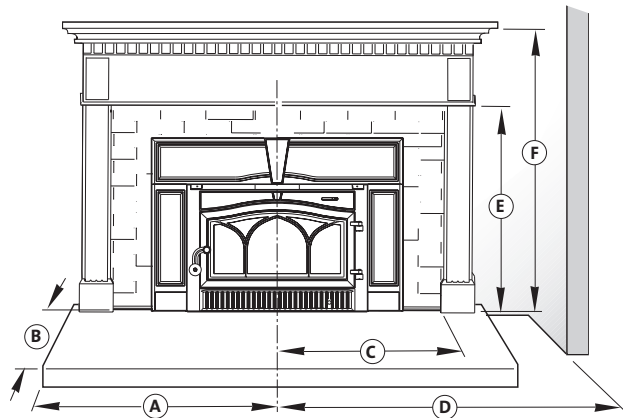

Figure 6. Minimum clearance to combustible materials.
**U.S. & Canada: Sides -** Protection must extend a minimum 18 1/2 in. to both sides of the centerline of the insert. See fig 6, A.